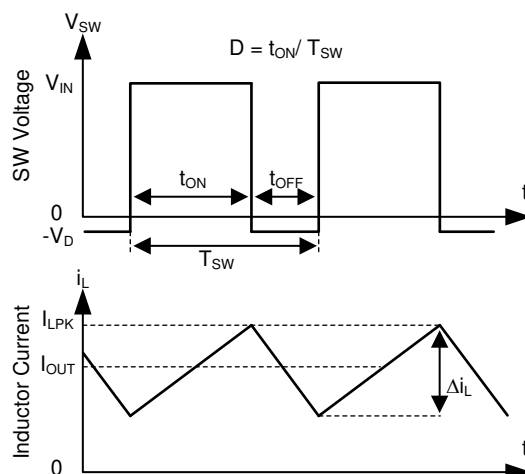

FIG 7-1. SW Node and Inductor Current Waveforms in Continuous Conduction Mode (CCM)
The following operating description of the LMR23625 refers to セクション 7.2 and to the waveforms in 図 7-1. The LMR23625 device is a step-down synchronous buck regulator with integrated high-side (HS) and low-side (LS) switches (synchronous rectifier). The device supplies a regulated output voltage by turning on the HS and LS